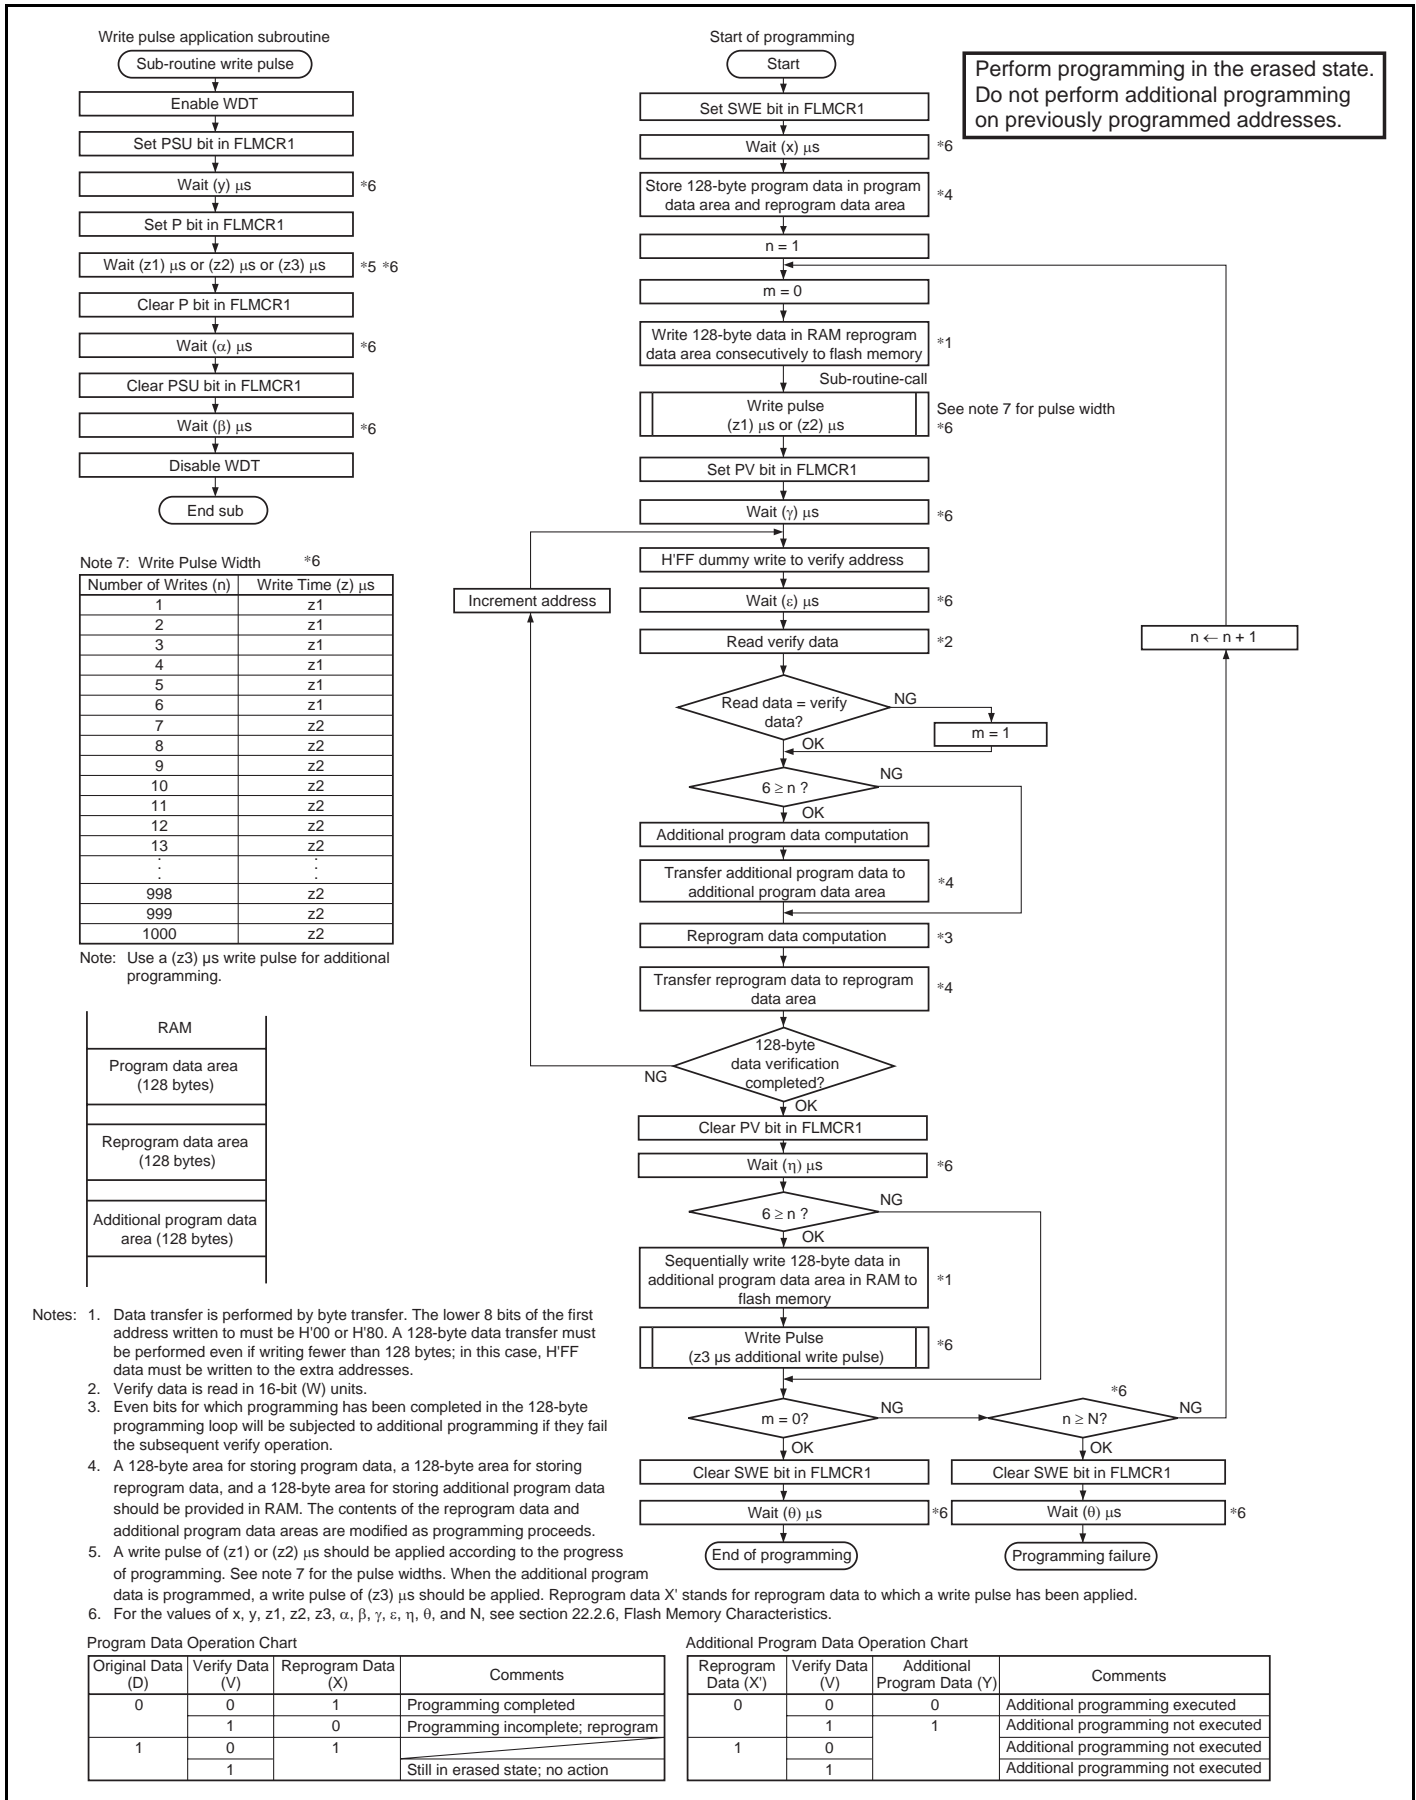

Figure 19.14 Program/Program-Verify Flowchart
Follow the procedure shown in the program/program-verify flowchart in figure 19.14 to write data or programs to flash memory. Performing program operations according to this flowchart will enable data or programs to be written to flash memory without subjecting the device to voltage stress or sacrificing program data reliability. Programming should be carried out 128 bytes at a time.
After the elapse of a given programming time, the programming mode is exited (the P bit in FLMCR1 is cleared to 0, then the PSU bit is cleared to 0 at least (α) μ s later). Next, the watchdog timer is cleared after the elapse of (β) μ s or more, and the operating mode is switched to program-verify mode by setting the PV bit in FLMCR1. Before reading in program-verify mode, a dummy write of H'FF data should be made to the addresses to be read. The dummy write should be executed after the elapse of (γ) μ s or more. When the flash memory is read in this state (verify data is read in 16-bit units), the data at the latched address is read. Wait at least (ε) μ s after the dummy write before performing this read operation. Next, the originally written data is compared with the verify data, and reprogram data is computed (see figure 19.14) and transferred to the reprogram data area. After 128 bytes of data have been verified, exit program-verify mode, wait for at least (η) μ s, then clear the SWE bit in FLMCR1 to 0, and wait again for at least (θ) μ s. If reprogramming is necessary, set program mode again, and repeat the program/program-verify sequence as before. However, ensure that the program/program-verify sequence is not repeated more than (N) times on the same bits.